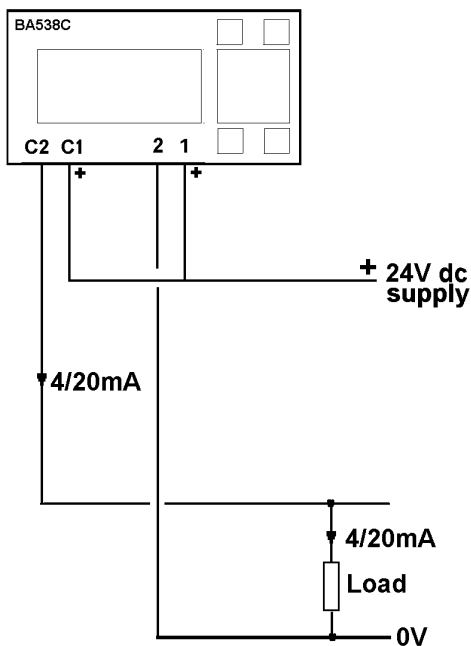

Fig 15 Application of 4/20mA output
The optional 4/20mA output may be programmed to produce an analogue output proportional to the whole or part of the rate display. The output is a current sink which requires between 5 and 30V to function as shown in Fig 15.
**Note 2:** If the BA538C and the 4/20mA current sink output are powered from separate supplies, the 4/20mA output current will continue to flow when the BA538C supply fails or is turned off. Powering both from a common supply as shown in Fig 15 eliminates this effect.